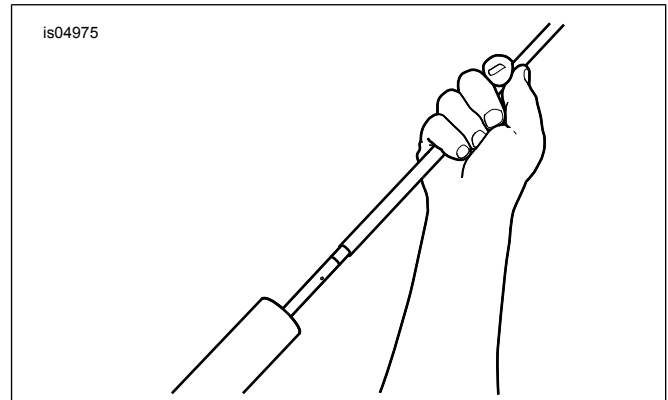

Figure 8. Pump Damper Rod Extension Tool
- a. See Figure 8. Thread extension tool onto end of damper rod.